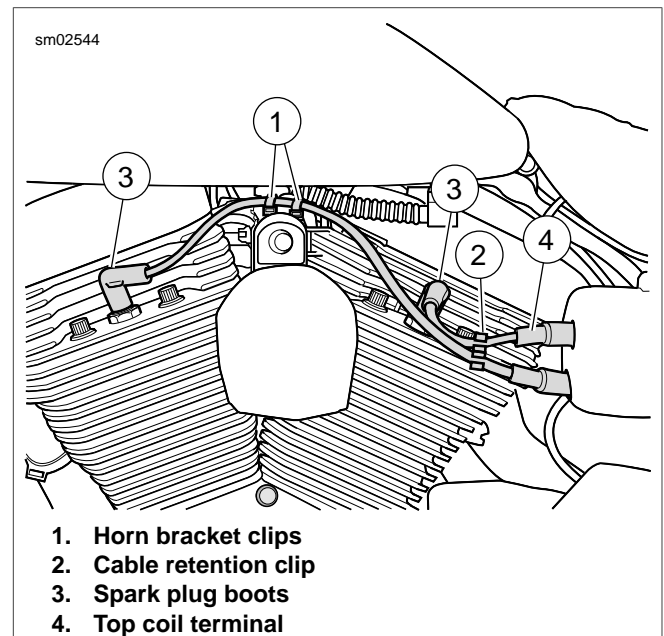

Figure 7-7. Spark Plug Cable Routing
2. See Figure 7-7. Remove clips (1) on horn bracket for front spark plug cable.
1. See Figure 7-7. Connect spark plug cables to ignition coil and spark plugs. Rear cylinder plug cable attaches to top coil terminal (4). Fasten boots/caps securely. Tight connections provide the necessary moisture-proof environment for the ignition coil and spark plug terminals.
2. Secure front spark plug cable to horn bracket with clips (1).
3. Install cable retention clip (2) over spark plug cables. Be sure clip is 1.5-2.0 in. (38.1-50.8 mm) from spark plug boots (3).